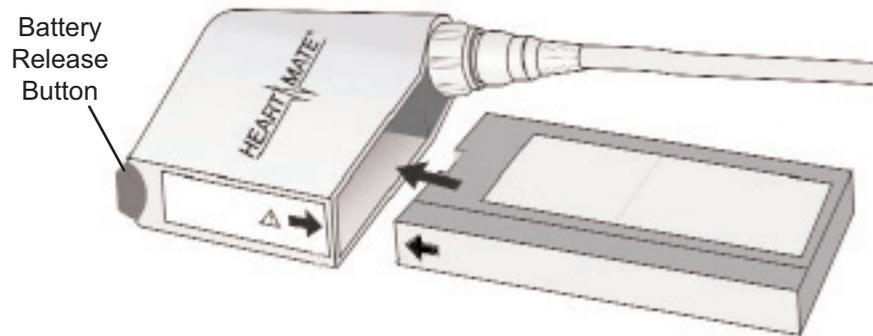

Figure 26 Battery Clip and Battery. Note Battery Release Button.
- 10 Connect the **black** PBU power lead connector to the **black** System Controller connector by aligning the pins, pushing the connectors together snugly, and then hand tightening the connectors (**Figure 26**). *The alarm will stop and both the green power symbol and battery fuel gauge lights will stop flashing. Wait until the power symbol and battery fuel gauge lights stop flashing and the alarm stops sounding before continuing with Step 11.*
- 5 Remove only one battery from its battery clip by pressing the battery release button (**Figure 26**, previous page).
- 6 Align the arrow on the new battery and the arrow on the battery clip (**Figure 26**; previous page).